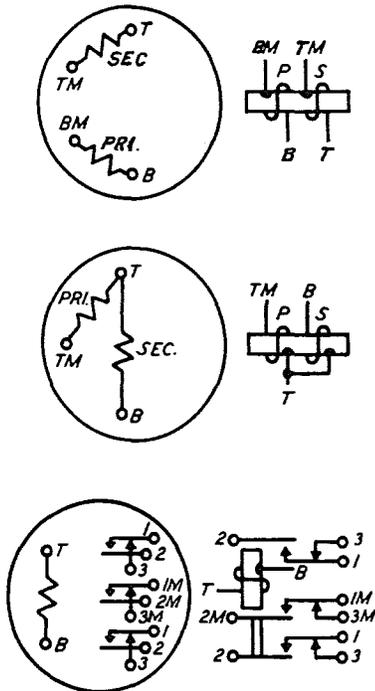

FIG. 17- WINDING AND SPRING TERMINAL ARRANGEMENT AS VIEWED FROM THE REAR (TERMINAL SIDE) - 121, 122, 125, 149, 162, 178 AND 179 TYPE RELAYS
2.34 The contact terminals are numbered diagonally downward from right to left facing the rear of the relay. On the 125 and 179 type relays the middle contact terminals have a suffix M. The relative location of the winding terminals as viewed from the terminal side and typical designations are shown in Fig. 17.